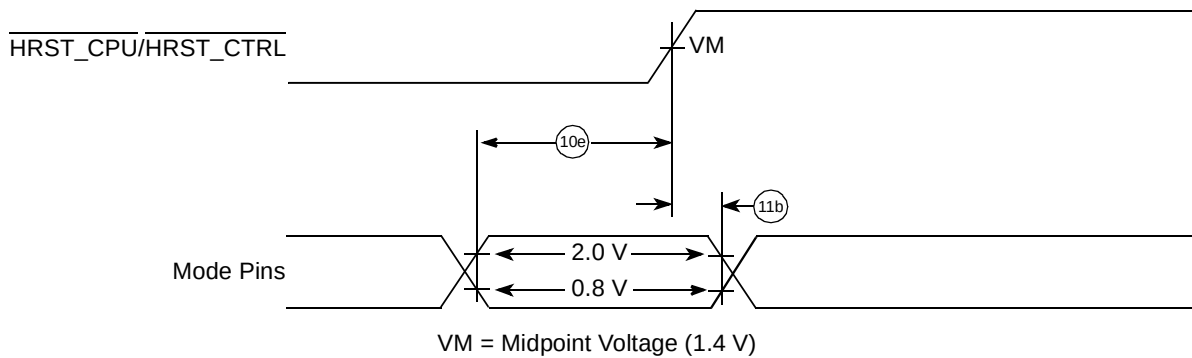

Figure 13. Input Timing Diagram for Mode Select Signals
5. All mode select input signals specifications are measured from the TTL level (0.8 or 2.0 V) of the signal in question to the VM = 1.4 V of the rising edge of the HRST_CPU/HRST_CTRL signal. See Figure 13.
Figure 13 shows the input timing diagram for mode select signals.